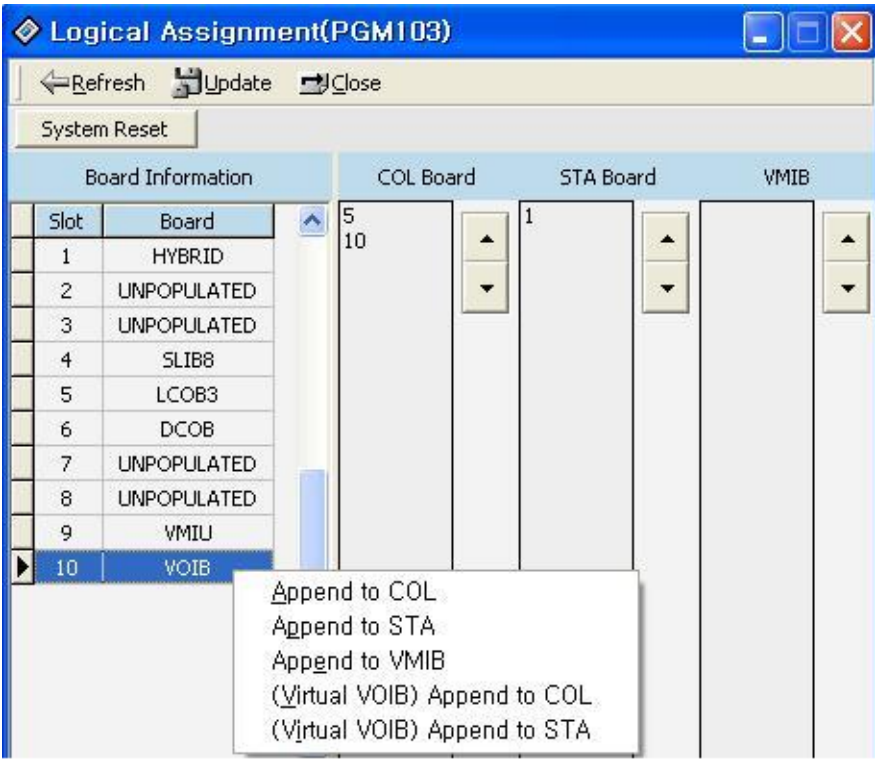

Figure 1-1 Logical Slot Assignment Window
1. Select the [Logical Assignment] in Rack Slot Assignment Setting Window (Figure 1-1). If any board is preset automatically by the system, it shows the boards on the dialog box.